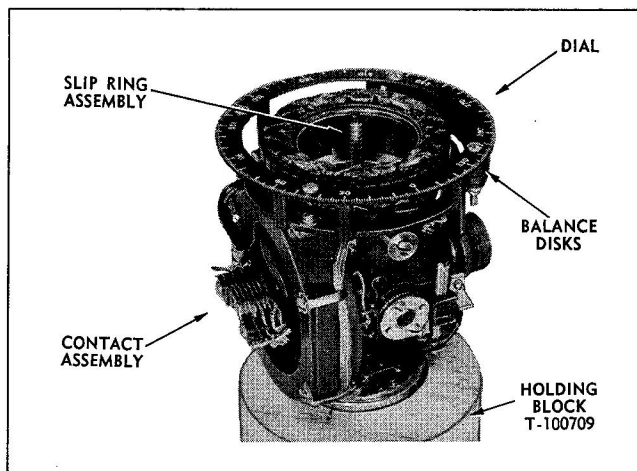
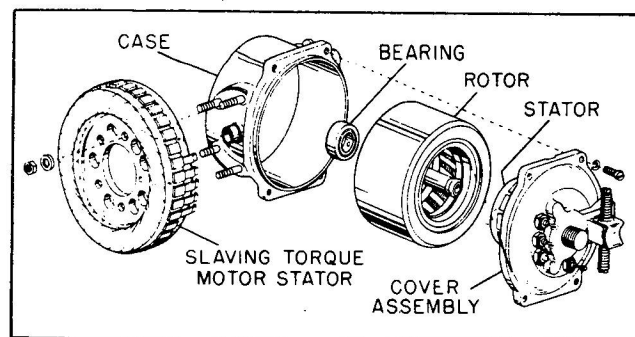

Figure 2-10 Vertical Ring Assembly in Holding Block T-100709
Figure 2-15 Exploded View of Gyro and Slaving Torque Motor Assembly S3-A/C
(9) Carefully lift the vertical ring and gyro assembly from the frame assembly. (See figure 2-10.) Lift out from the top, being careful not to damage the synchro rotors or the contact assemblies.
(10) Using Bearing Puller T-100714, remove the lower vertical ring bearing and place in a dustproof container.
(11) Set the vertical ring and gyro assembly in Holding Block T-100709 with the slip ring assembly up. (See figure 2-10.)
(d) Removing the gyro and slaving torque motor assembly. Remove the four binding head screws securing the dial to the vertical ring dial support. (See figure 2-10.) Mark the zero-degree position of the dial and the position of the balance disks on the dial support to facilitate re-assembly. The two long screws and locknuts also hold the balance disks to the dial. The
(g) Disassembly Of The S-3A/C Gyro. Figure 2-15 is an exploded view of the gyro assembly which should be found helpful both in disassembly and reassembly. For the S-3B/C gyro assembly see fig. 2-10.